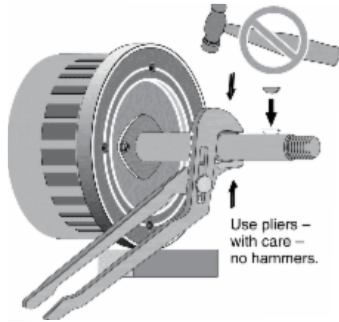

Figure 21
3. Make sure that the shaft keys are in place on the shaft. If they are not, squeeze them in place now with slip joint pliers. Do not tap them or hit them with a hammer; you could bend the shaft (see Figure 21). When the keys are correctly installed, the adapter will pass over the keys without interference.